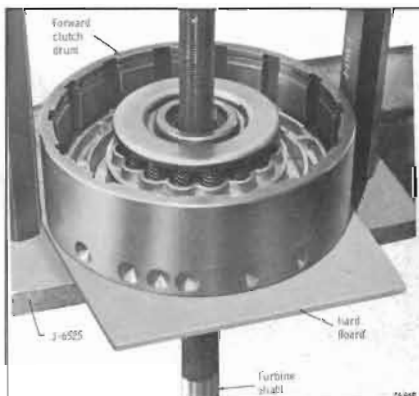

Figure 74-648
5. If necessary remove turbine shaft. See Figure 74-648.